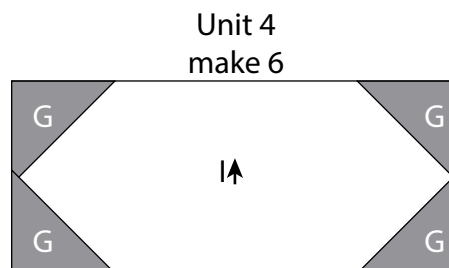

Fig. 12
8. Repeat Steps 5-6 and refer to Figure 12 for fabric identification, placement, seam direction and orientation while using (24) 3 ½" Fabric G squares and (6) 6 ½" x 14 ½" Fabric I strips to make (6) Unit 4 strips.